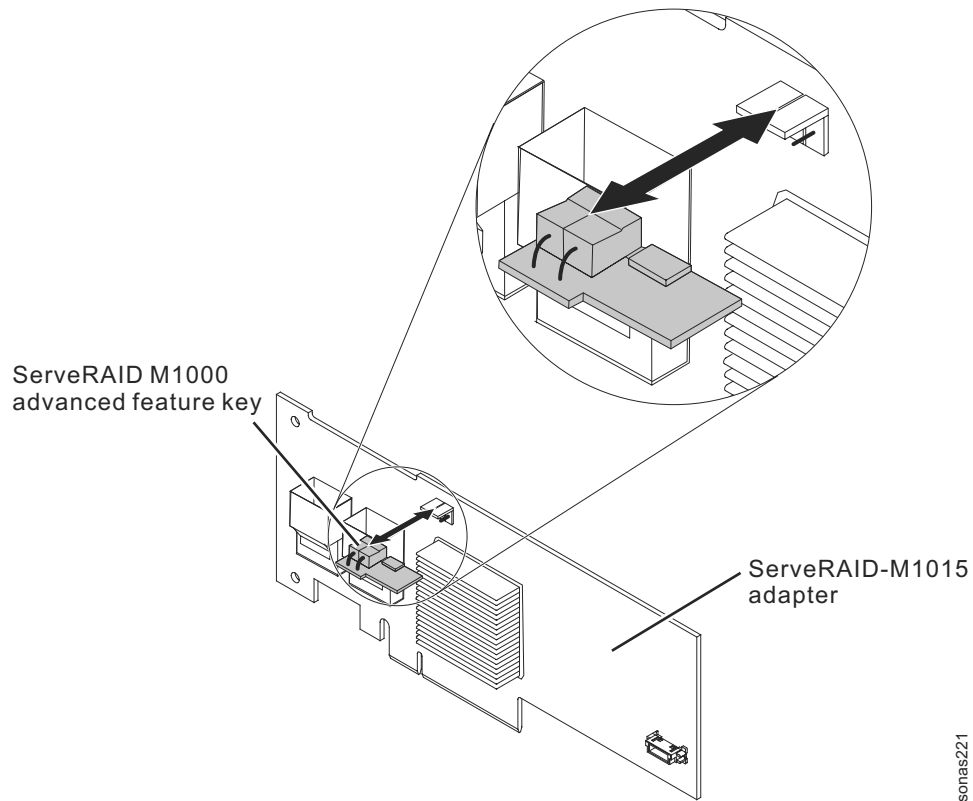
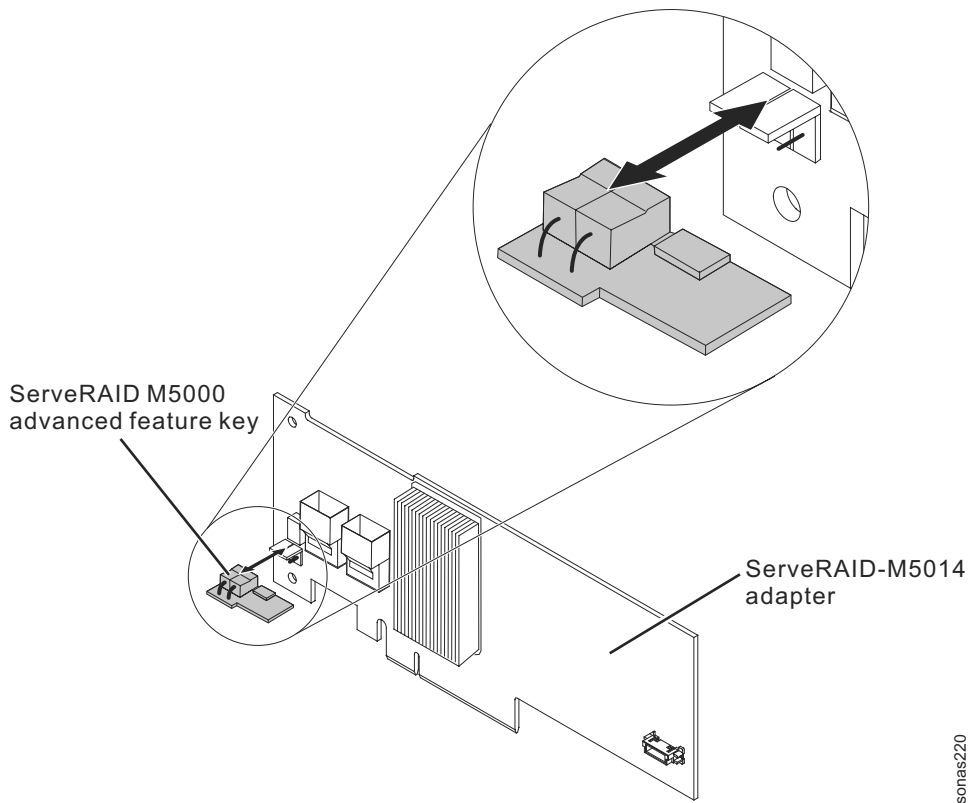

Figure 28. ServeRAID M1000 advanced feature key and M1015 adapter
Figure 29. ServeRAID M5000 advanced feature key and M5014 adapter
4. Grasp the feature key and lift to remove it from the connector on the ServeRAID adapter. See Figure 28 and Figure 29 on page 122.